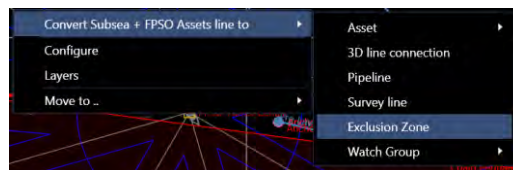

FIGURE 19-16 CONVERT POLYLINE TO EXCLUSION ZONE
- i. Right mouse click on a polyline in the 2D Map view and select **Convert to > Exclusion Zone** as shown in Figure 19-16